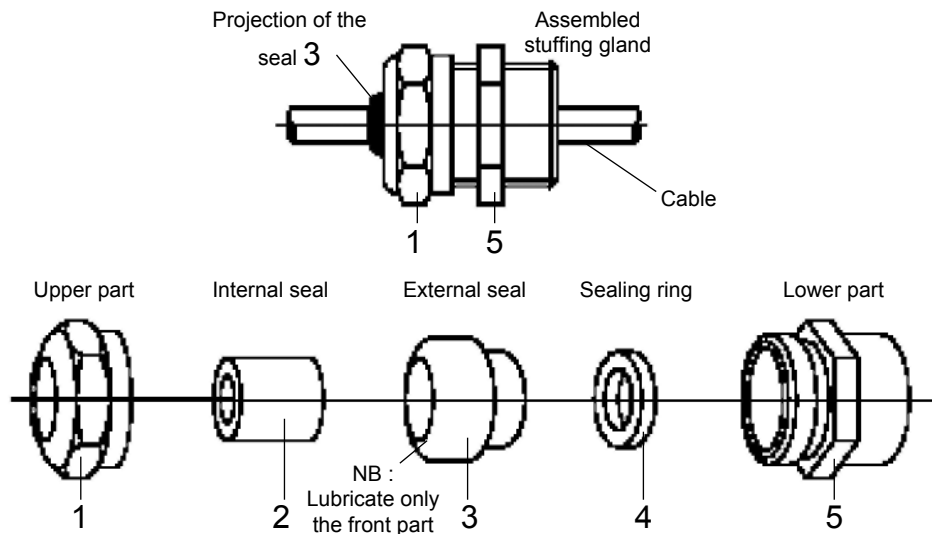

Fig. 4-2 : Stuffing gland (view of the assembly and exploded view).
- Pass the cables into the stuffing gland proceeding as follows (refer to figure 4-2):
- Reassemble the stuffing gland elements and, before positioning element 1, coat seal 3 with silicon as shown on figure 4-2. Tighten element 1 so that it projects beyond joints 2 and/or 3 to provide the degree of sealing required.